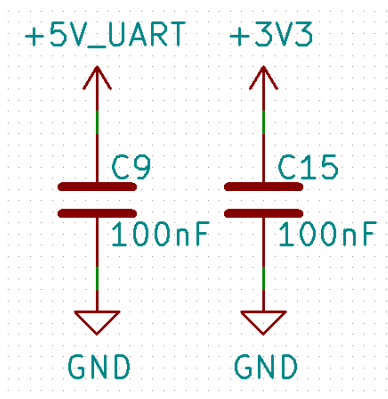

Figure 1 – Basic KiCad Source Labeling and Minimum Connection Distance
- 1) Use “Up Arrow” symbol for all voltage rails as shown in **Figure 1**.
- 2) When dealing with voltages such as 3.3 Vdc, show them on the schematic as 3V3. Voltages of 5.0 Vdc should be shown as just 5V. **Figure 1**.
- 3) The same voltage level coming from multiple sources (provided isolation between those levels is required) should be named like the following: Ex) Two 5 Vdc sources, isolation required between sources. One source is the system 5 Vdc, the other is the UART 5 Vdc. The system 5 Vdc should be labeled +5V. The UART 5 Vdc should be labeled +5V_UART. **Figure 1**.
- 4) Connections to/from a pin on a part should extend at least 50 mil from that part before terminating into the connecting part. **Figure 1**. Note: Shown as the green wire in **Figure 1**.
- 5) The standard GND symbol should be used for all system grounding unless a multiple grounding scheme is needed. **Figure 1**.